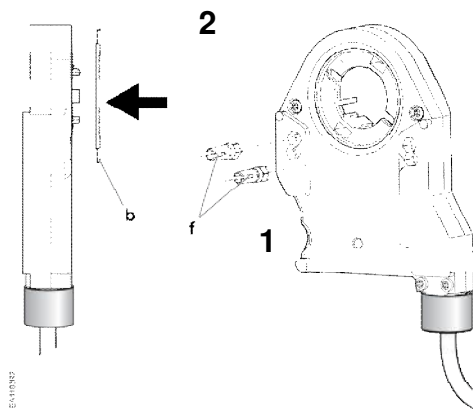
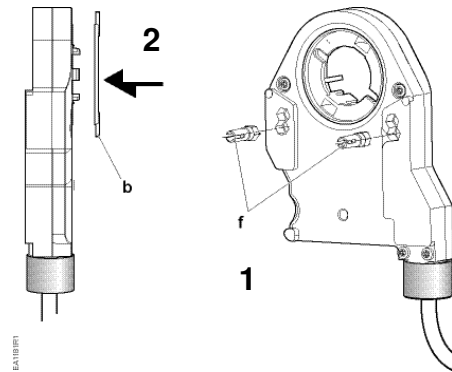

Figure 8. For GMA/GEB Actuators, Use Top Screw Holes.
Figure 9. For GCA, GBB, GIB Actuators, Use the Bottom Screw Holes.
NOTE: The EAS label may cover the mounting holes. See Figure 8 and Figure 9 for the mounting hole locations.
1. On the back of the EAS, push the plastic inserts into the mounting holes. (See Figure 8 and Figure 9).
2. Mount the position indicator on the face of the EAS (See Figure 8 step 2 and Figure 9, step 2).